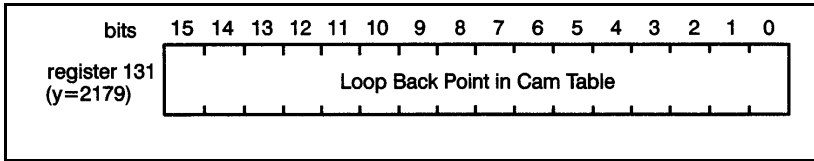

Figure 4.56 – Cam Loop Back Register
Register 131 contains the loop back point in the time cam profile. This register is not used when position cam is selected. The loop back point is the profile point to which the axis will return after reaching the end of the defined profile. If this register is used, you must ensure that both the value for the last point in the cam profile table and the value for the loopback point are within the accel/decel capability of the servo drive. The profile points between the first profile point and the loop back point are executed only once even in the continuous mode. This allows these initial profile points to be used to accelerate the axis into and out of the profile. The loopback register is not used if the cam profile is executed only once. Note that the first point in the cam table is point zero (0). Refer to figure 4.56.